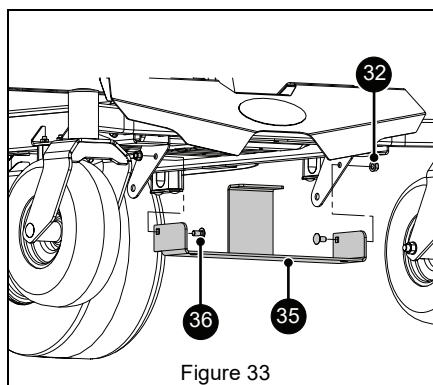

Figure 33
1. Install weight bracket (item 35) onto frame using two $\frac{3}{8}$ " x $\frac{3}{4}$ " round head square neck bolts (item 36) and two $\frac{3}{8}$ " locking top flange nuts (item 32). See Figure 33.